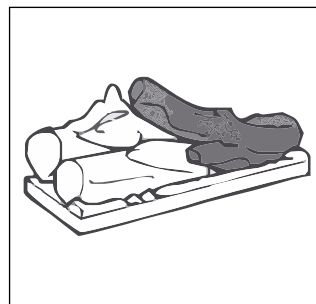

FIG 15
- c) Place log #3 on single right front pin, ensure fork locates over log #2. Refer **FIG 15**.